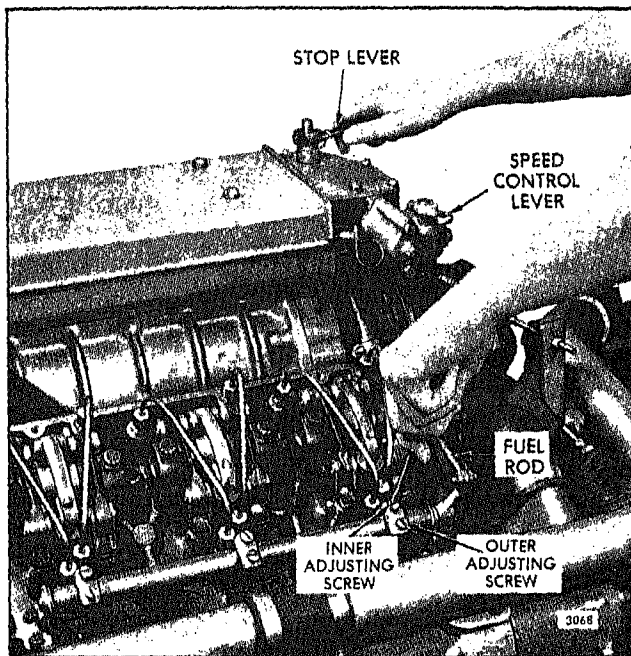

Fig. 3 - Positioning No. 3L Injector Rack Control Lever
4. Move the stop lever to the *run* position and hold it in that position with light finger pressure. Turn the inner adjusting screw of the No. 3L injector rack control lever down (Fig. 3) until a slight movement of the control tube is observed, or a step-up in effort to turn the screw driver is noted. This will place the No. 3L injector rack in the *full-fuel* position. Turn the outer adjusting screw down until it bottoms lightly on